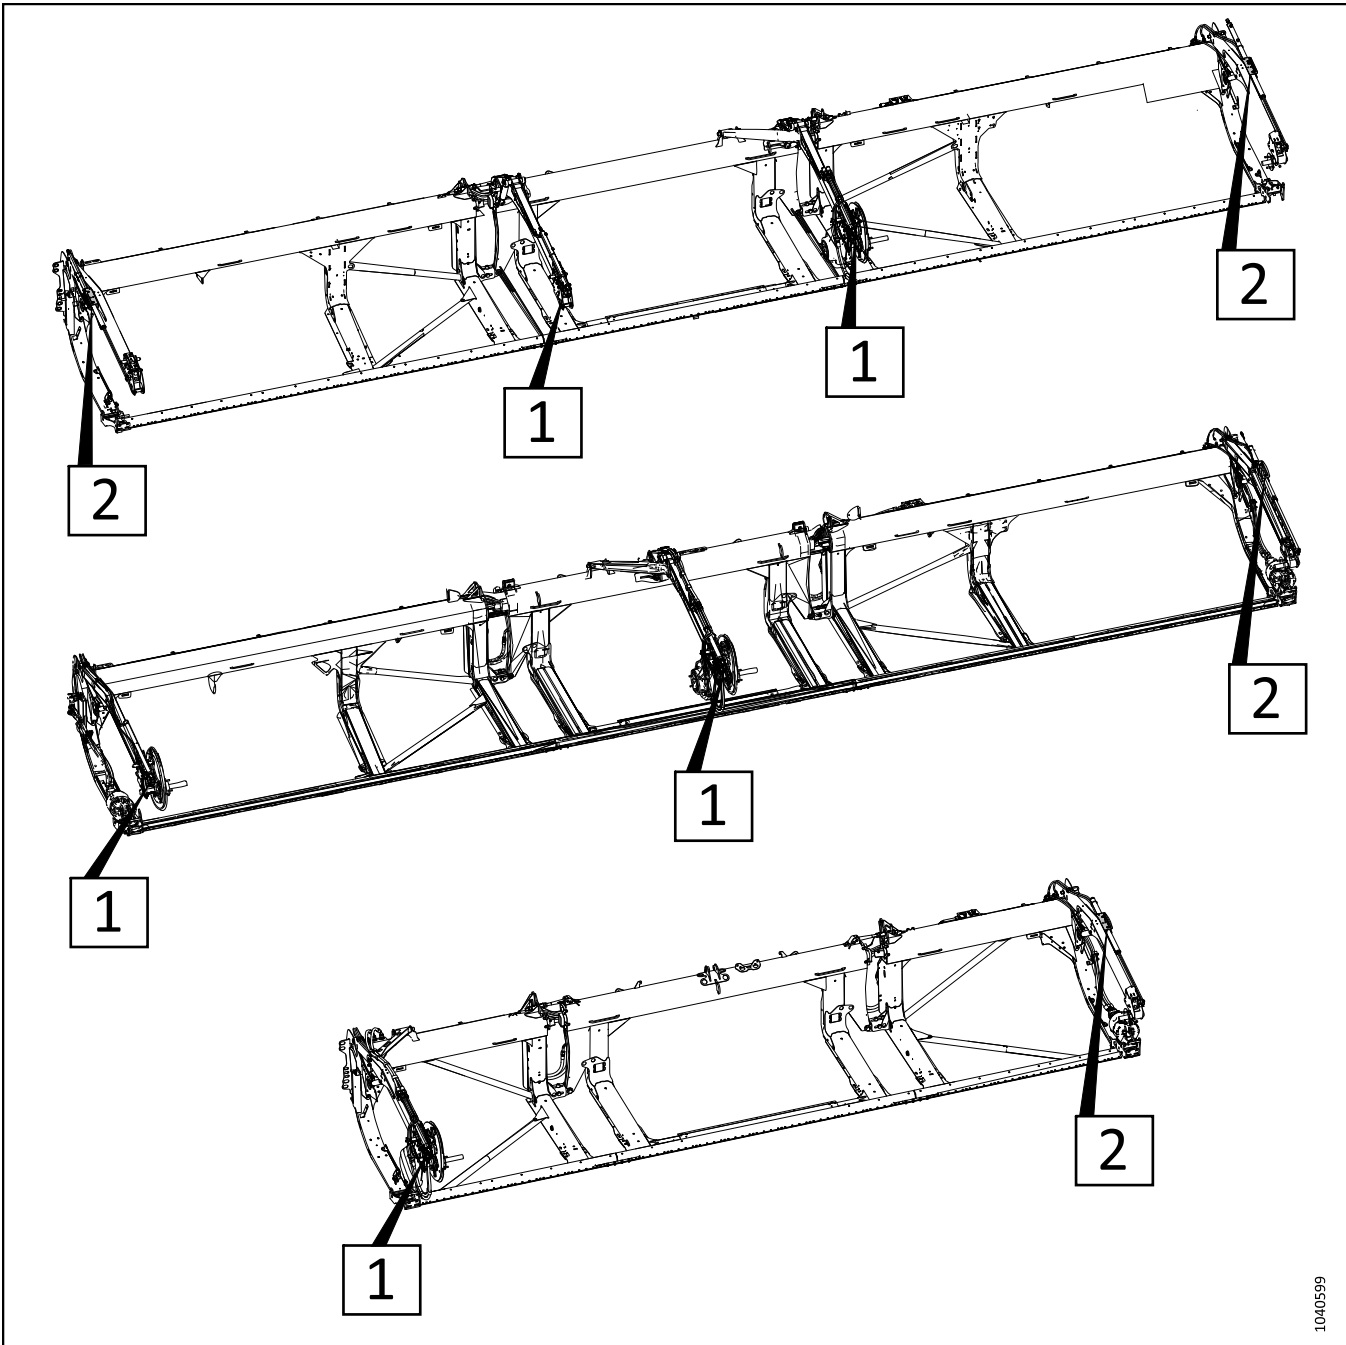

Figure 3.197: Adjustable Fore-Aft Cylinders – Procedure Reference Numbers
5. Refer to Figure 3.197, page 170 to determine the fore-aft cylinder adjustment procedures for your header type. The number on the illustration refers to one of the following procedures: